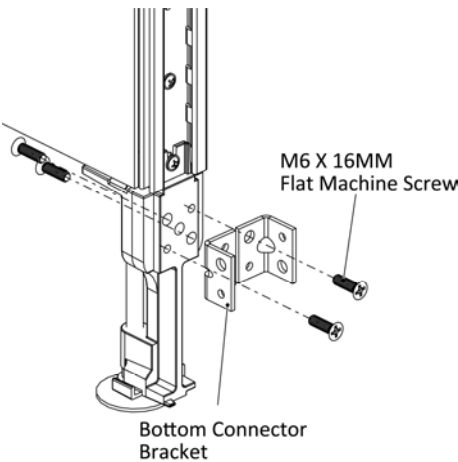

Figure 9
- 18. Install two bottom corner brackets to panel leg of fourth panel with M6 X 16MM Flat Machine Screws, (Figure 9).